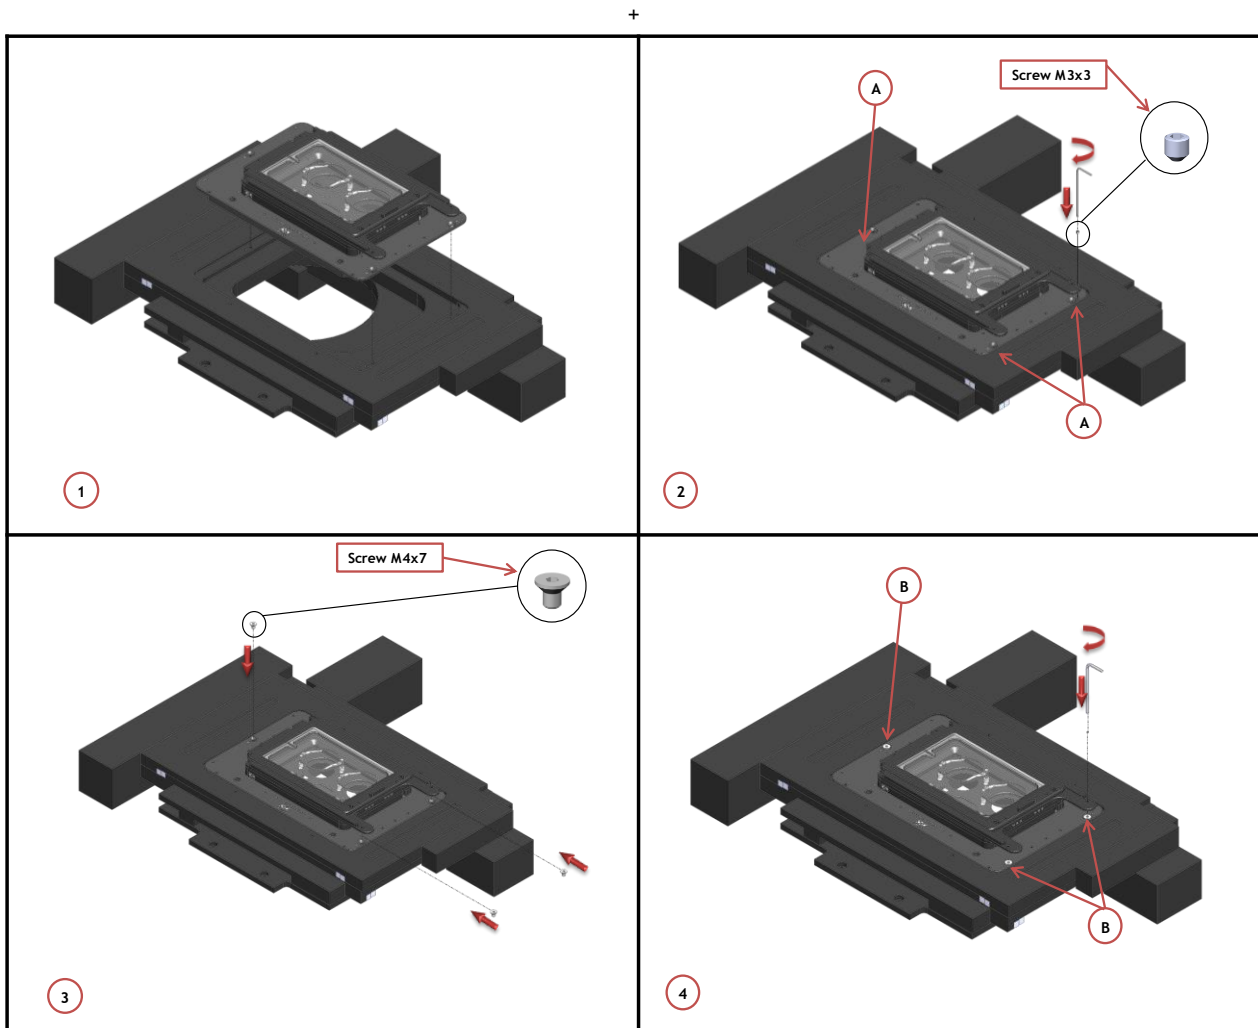

Figure 24. How to fix the H301-NIKON-TI-S-ER to the XY stage.
Once you have assembled the chamber with adapter you can place it on the XY stage, following the steps shown in Figure 24.
1. Place the adapter on the stage (See Figure 24 Image 1).
2. Use the Grub screws to align correctly the adapter on the stage. Grub screws housings are indicated with letter A in Image 2 of Figure 24.
3. Follow the arrows shown in Image 3 of Figure 24 for placing flat socket head cap screws; use the provided Allen wrench for tightening the flat socket head cap screws and fastening the adapter on the stage. Screws housings are indicated with letter B in Image 4 of Figure 24.